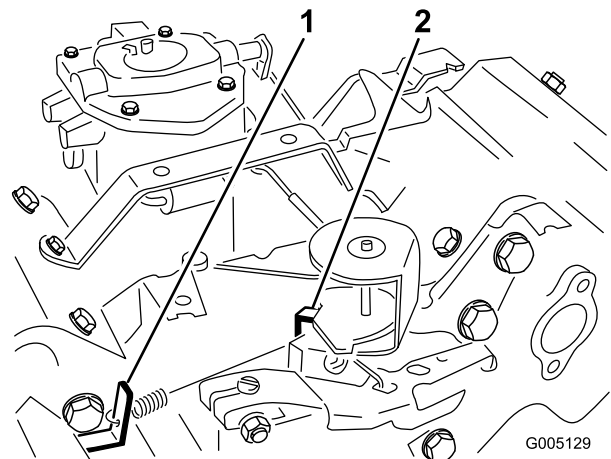

Figure 50
3. Bend the governed idle spring anchor tang (Figure 50) to attain an idle speed of 1650 ± 100 RPM. Check the speed with a tachometer.
- Move the throttle control to the Fast position. Bend the high speed spring anchor tang (Figure 50) to attain a high speed of 2850 ± 50 RPM.